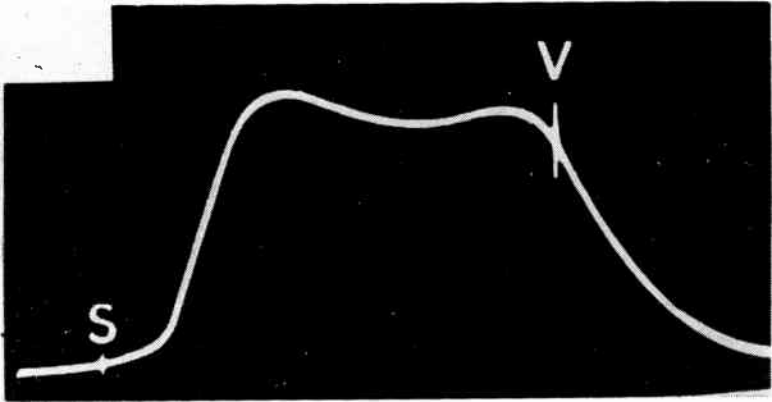

Fig. 3-3. Excessive bandwidth and low gain.
7. Excessive bandwidth (Fig. 3-3) will be accompanied by low gain, because any alignment adjustments which increase bandwidth will reduce overall gain, and vice versa.